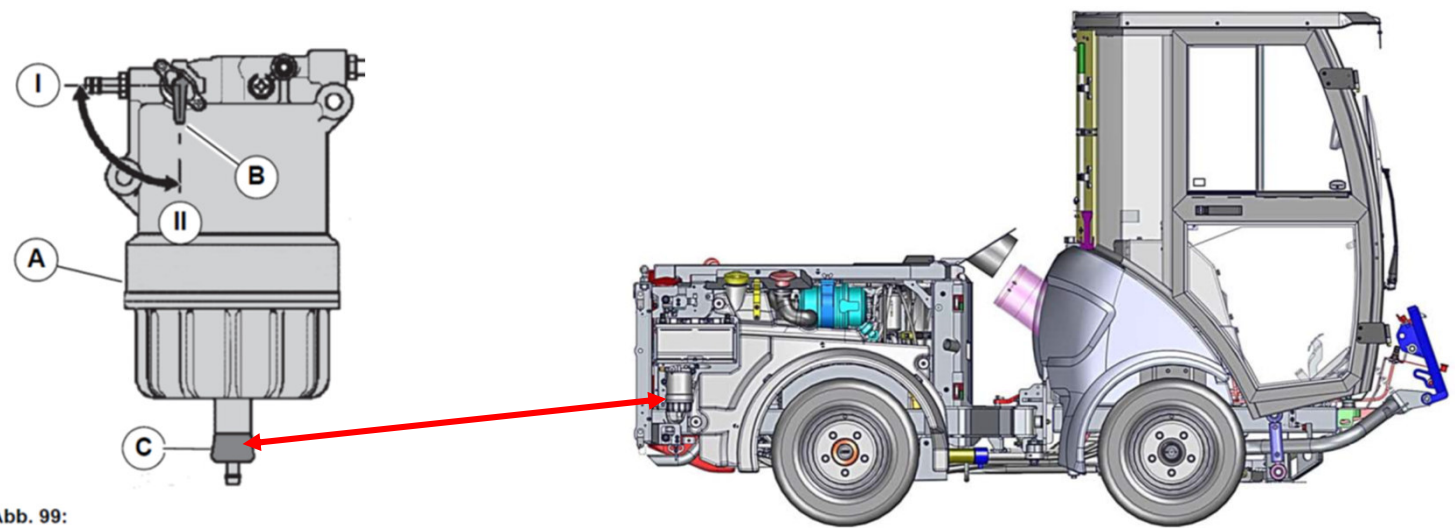

Abb. 99:
Check the water trap Fig. 99-A weekly and drain the condensed water out from the water trap if required.
4. Close the fuel valve Fig. 99-B by turning it into position Fig. 99-I.
5. Open the drain valve Fig. 99-C. Let the accumulated water drain off.
7. Open the fuel valve again by turning it into position Fig. 99-II.